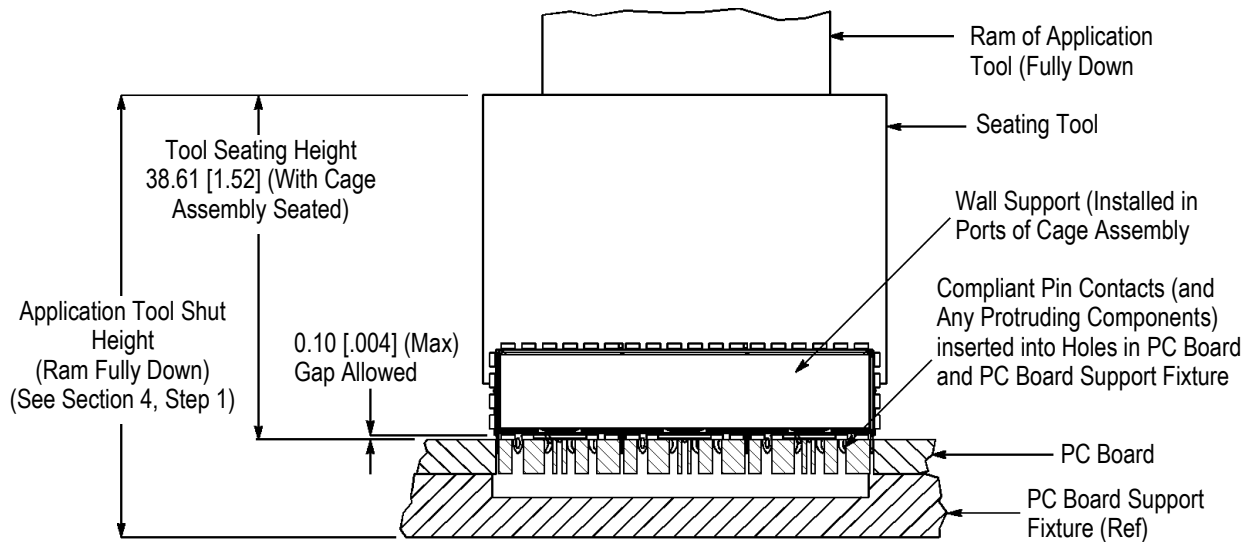

Figure 2
1. Set the tool seating height to the dimension shown in Figure 2 (application tool shut height will equal the tool seating height PLUS the combined thicknesses of the pc board and support fixture).
5. SEATING (Figure 2)